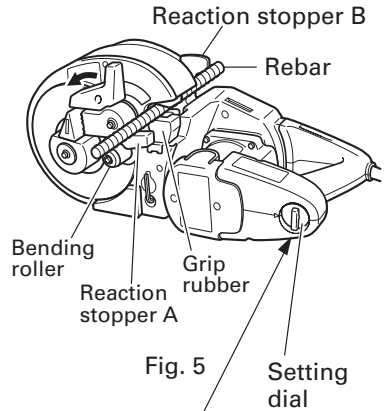

Fig. 5
### 1. Normal cutting (Fig. 5)
- (3) Set the unit in the position shown in Fig. 5.
- (4) Set the rebar to be cut on the lower cutter.
- (5) When the rebar is set, make sure that the reaction stopper B is hooked to the rebar.
- (6) Pull the switch trigger and cut the rebar.